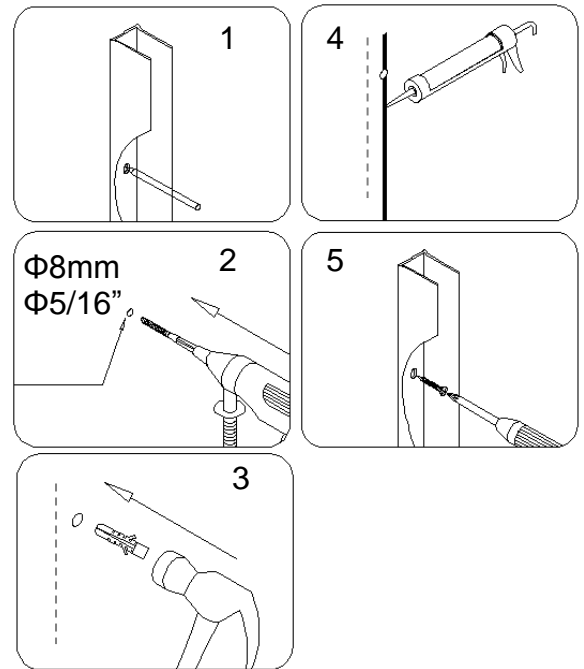

Fig 3
3. Mark the drill holes on the wall through the predrilled holes in the **Wall profile (01)**. Now drill holes in the wall using a **Φ5/16 drill bit** and insert the **Wall anchors (03)**. Apply silicone along the back of the **Wall profile** and into the drill holes. Fasten the **Wall profile** to the wall with the **Big head Screw ST4.2x40 (04)**. See Fig 3